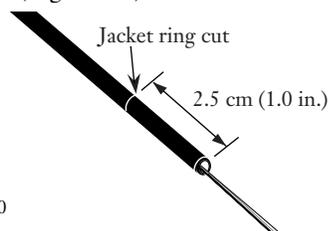

Figure 20
- a) Use the coaxial cable stripper to ring cut the jacket approximately 2.5 cm (1.0 in.) from the end of the tube (Figure 20).